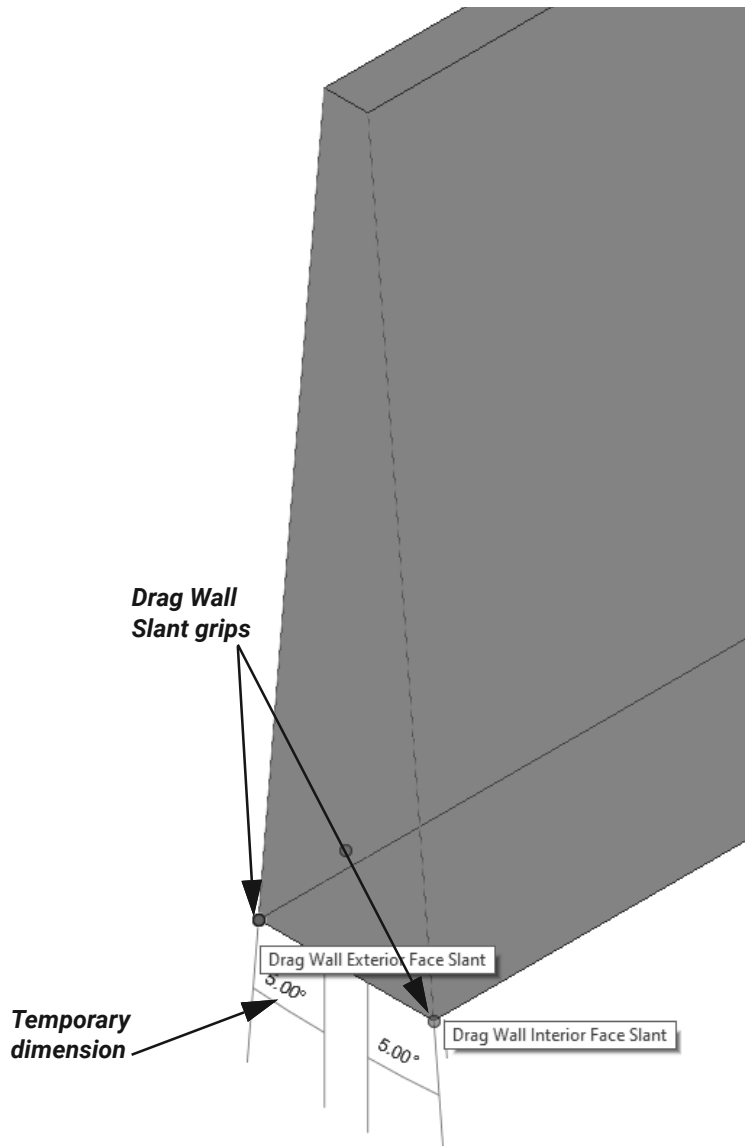

Figure 7-18
- When modifying a tapered wall, you have the ability to modify the Drag Wall Exterior Face Slant and Drag Wall Interior Face Slant grips or modify the temporary dimension in a 3D, section, elevation, or isometric view, as shown in Figure 7-18.